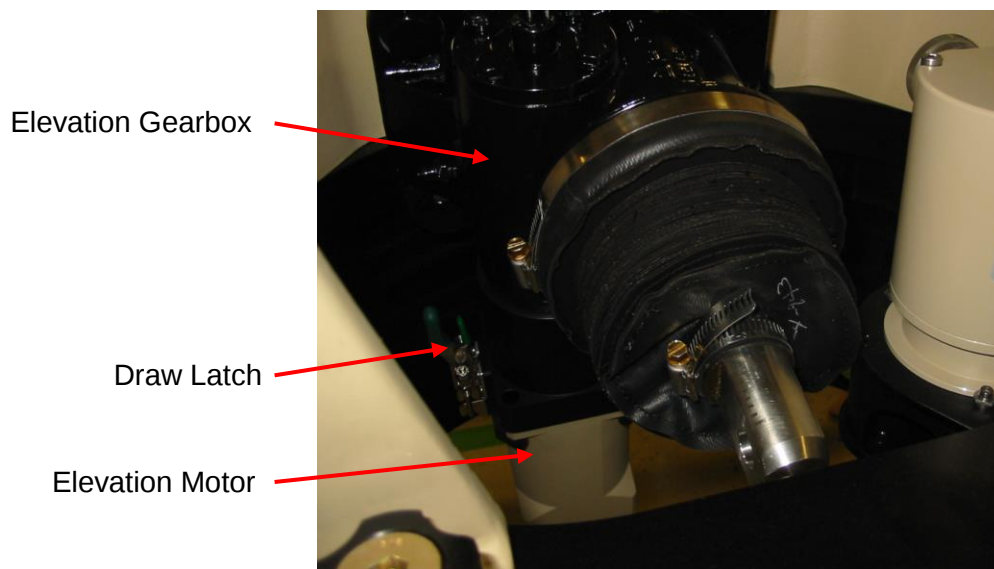
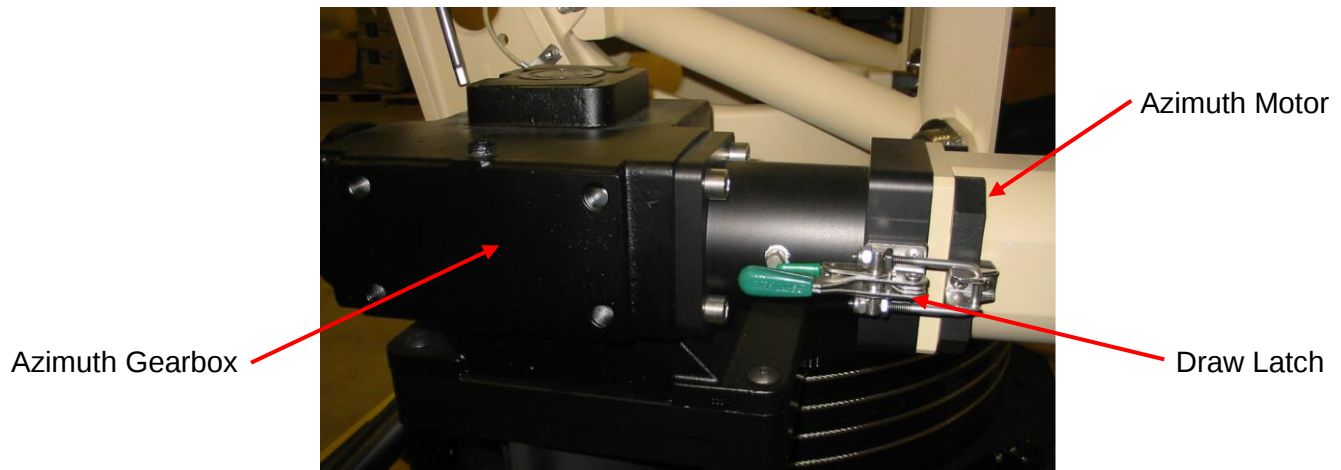

Figure 17. Attachment of Elevation Motor
Figure 18. Attachment of Azimuth Motor
6. Attach each motor to their respective gearboxes using the two draw latches as shown in Figure 17 (shown below) and Figure 18 (on page 25).